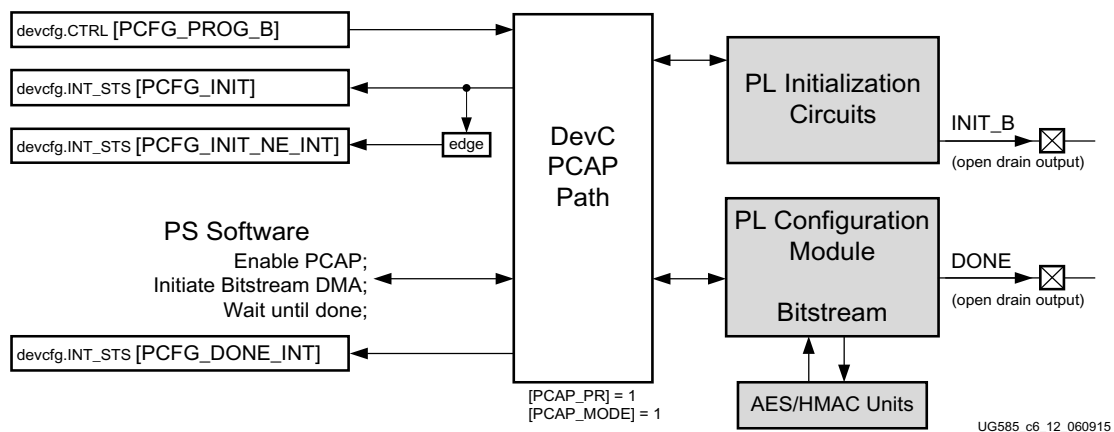

Figure 6-12: PCAP Path for PL Initialization and Configuration
4. **FSBL/User Code to Initialize and Configure PL.** The controls are shown in Figure 6-12. Refer to UG821, *Zynq-7000 All Programmable SoC Software Developers Guide* for information on creating FSBL/User code.
The PL is controlled by PS software (Figure 6-12) through the PCAP bridge or using external pins and the JTAG interface associated with the PL (Figure 6-20, page 218).
The PS and PL can be brought up together in a secure or non-secure mode. The simultaneous bring-up of the PS and PL is shown in Figure 6-12. Also refer to Figure 6-4, page 163 for details on power, reset, and clock interactions and timing examples. The PS non-secure bring-up using a flash device without JTAG illustrates a simple example with minimal resources. The example is shown in Figure 6-14. When the PL is needed later in the system operation, its bring-up is explained in the PL Bring-up by FSBL/User Code example.